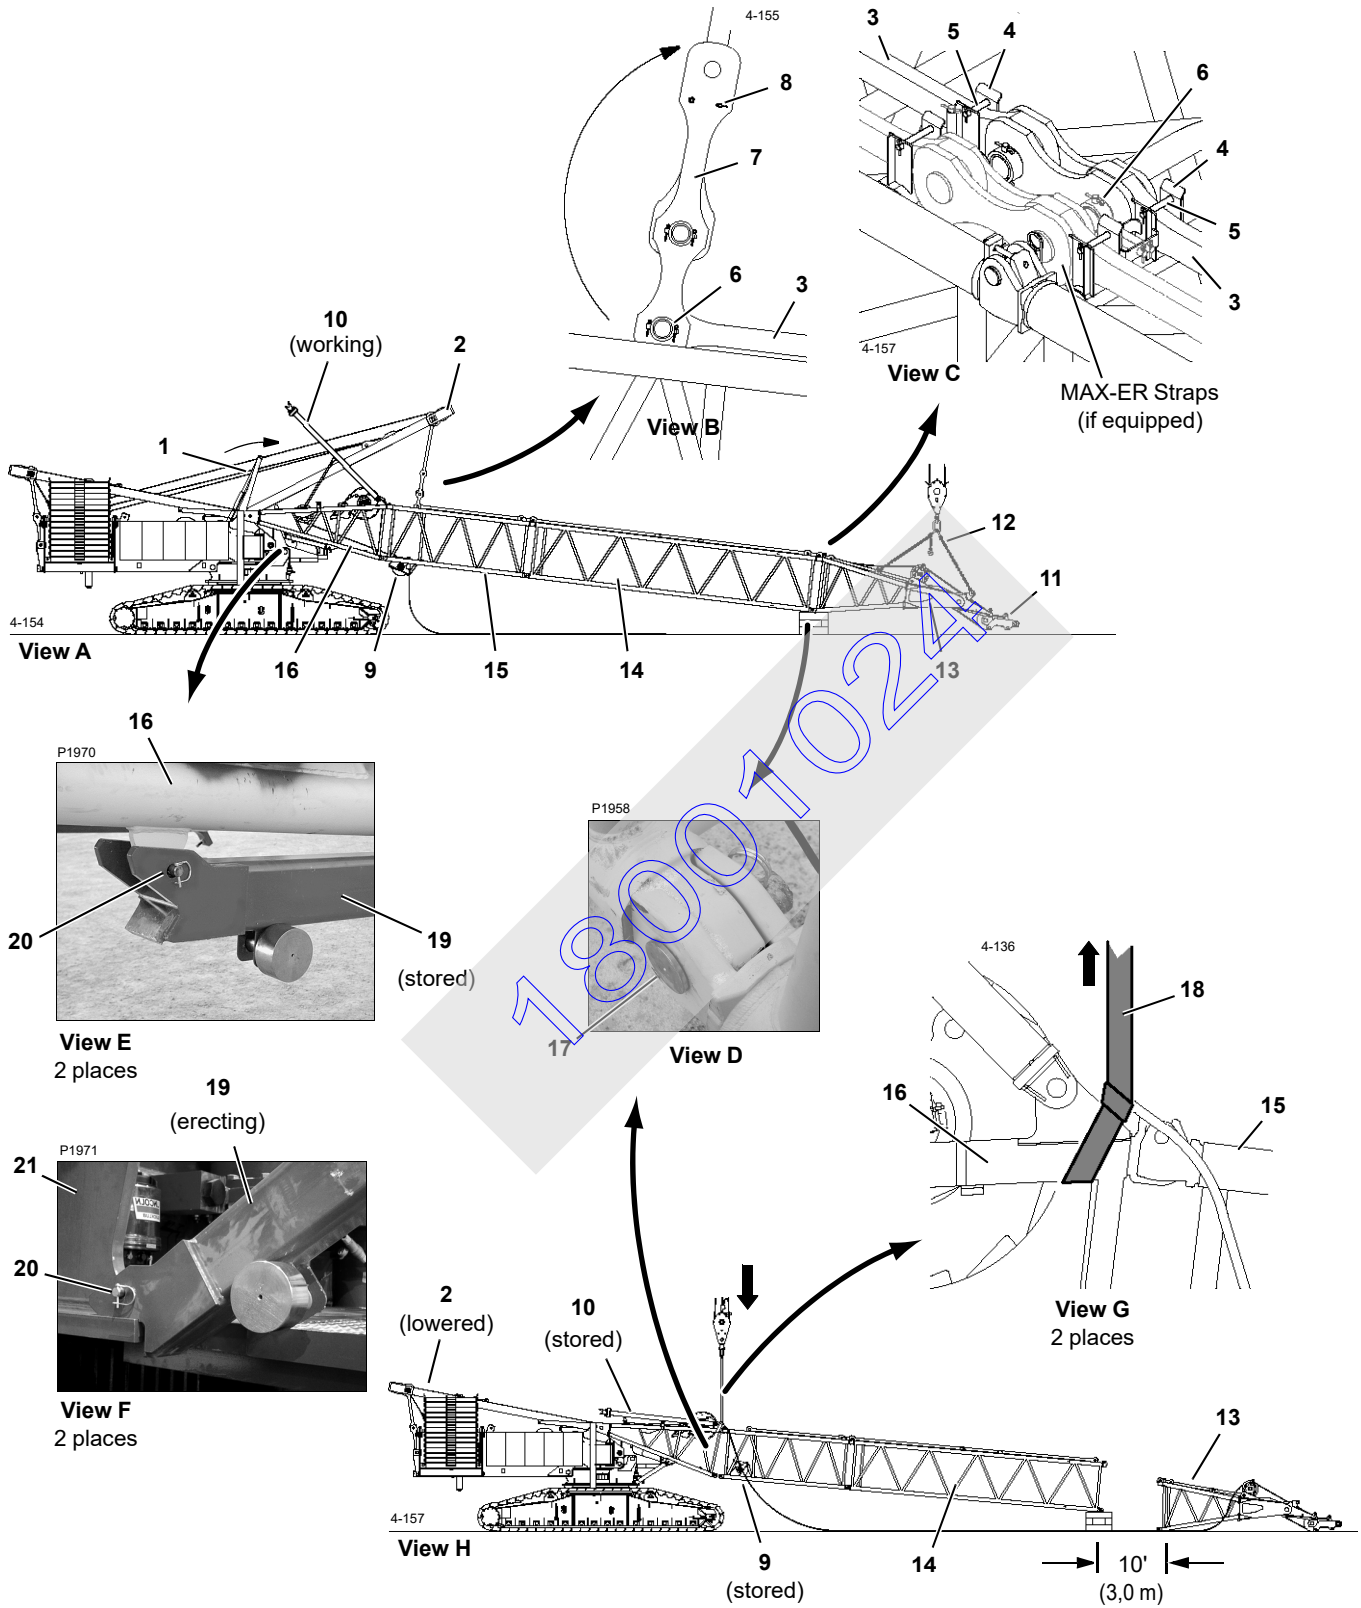

FIGURE 4-34
**Legend for Figure 4-34**
See Figure 4-34 for the following procedure.
FIGURE 4-34 continued